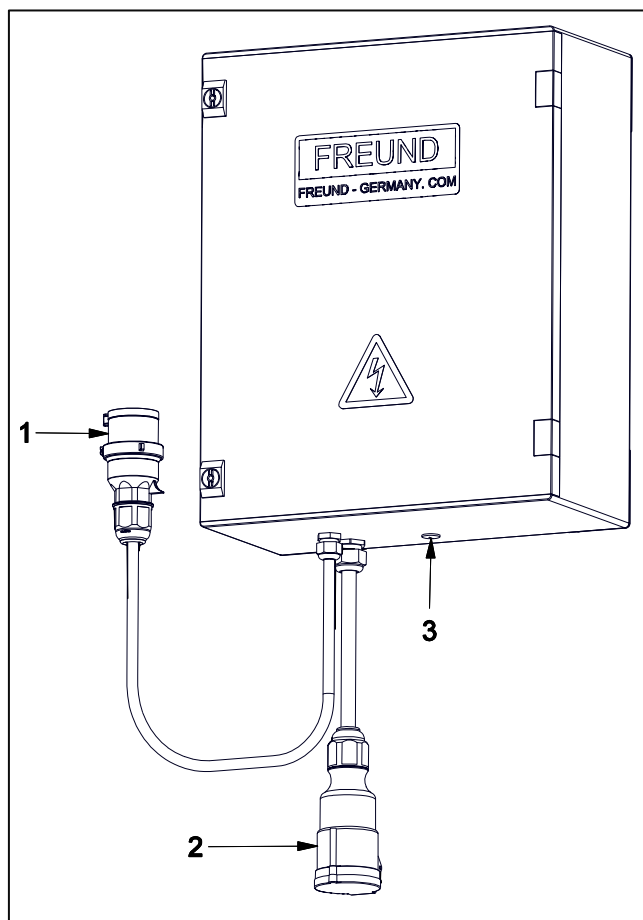

Fig. 5-13 TR3-SG33-KS
- Connect the Transformer to the power supply (1) and to the corresponding machine (2) (Fig. 5-13).